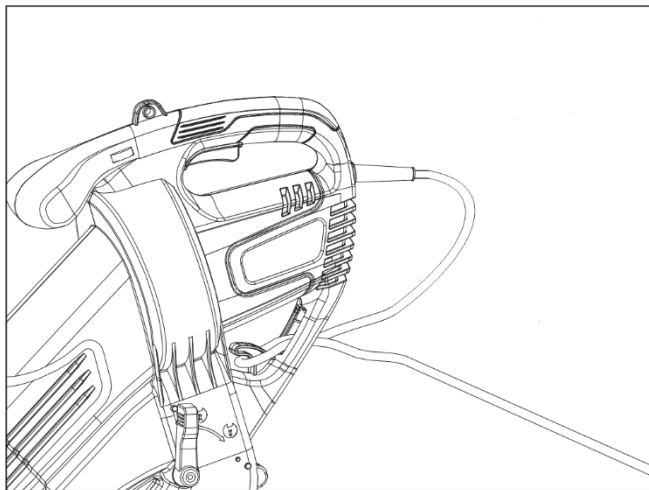

Fig. 3
2. Make sure the on/off switch (1) is in its off position. Connect the plug with the extension cord socket .
3. Loop the cable through the hole on the rear safe guard and hook the loop over the cord retainer. Gently pull on the cord to ensure that it is firmly attached at the handle (Fig. 3).
5. Your product is now ready to be used by switching on (1).